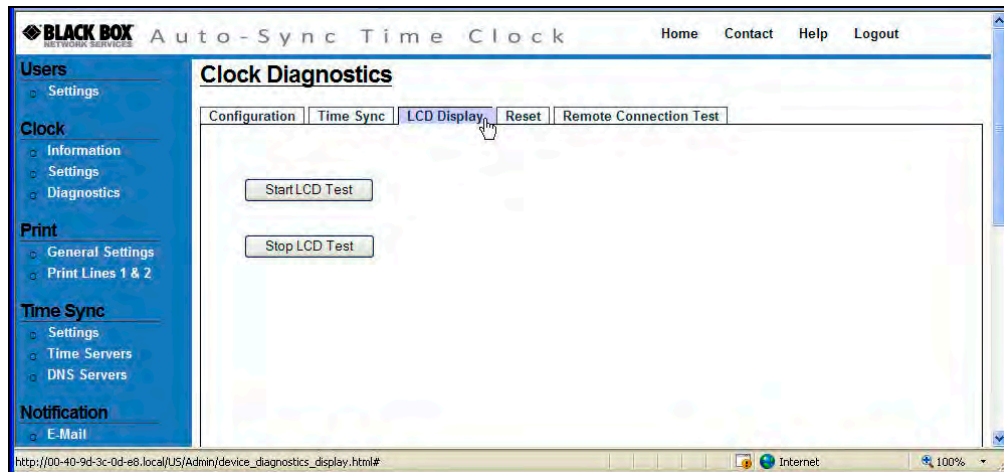

Figure 6-3. LCD Display Clock Diagnostics.
1. Click on the **Diagnostics** link under **Clock**, and the **Clock Diagnostics** screen will appear. Then click on the **LCD Display** tab and the LCD Display screen will appear (see *Figure 6-3*).